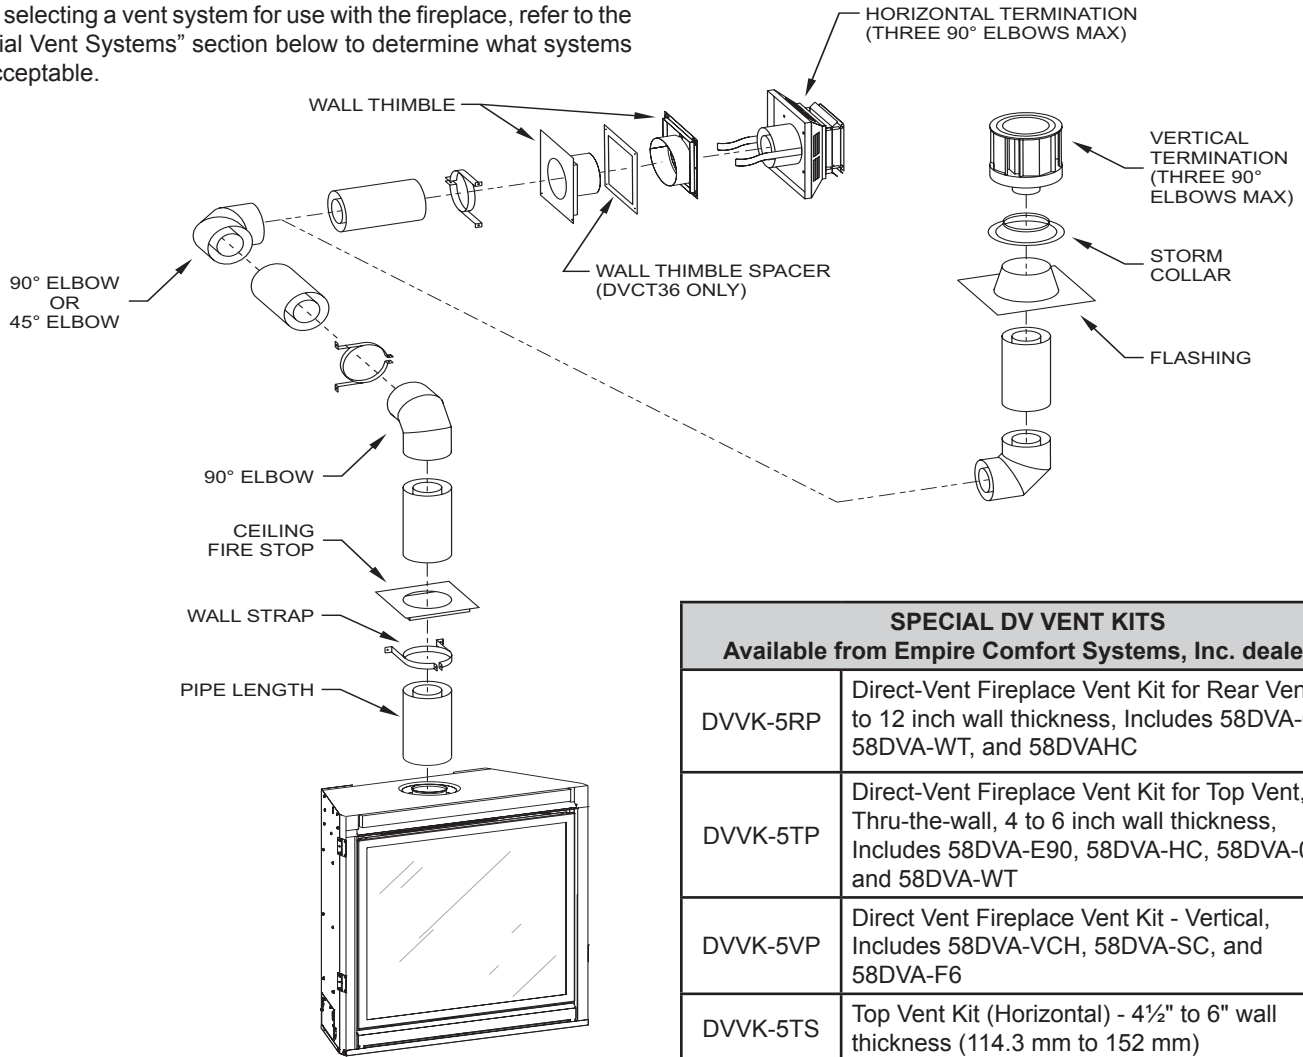

Figure 45
**Example of possible venting systems using two 90° elbows:** V is listed as minimum vertical dimensions and H1 + H2 is listed as total of maximum horizontal dimensions. The maximum vertical and horizontal distances for two 90° elbows as shown in **Figure 45** is 20 feet (6.1 m).